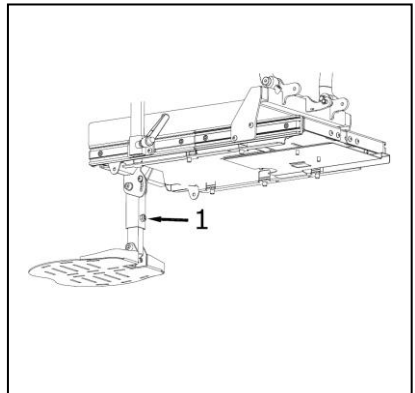

Figure 4.9
**Foot Plate height setting (fig 4.9).**
1. Loosen the bolts (1).
2. Slide the calfplate in the desired depth position (2).